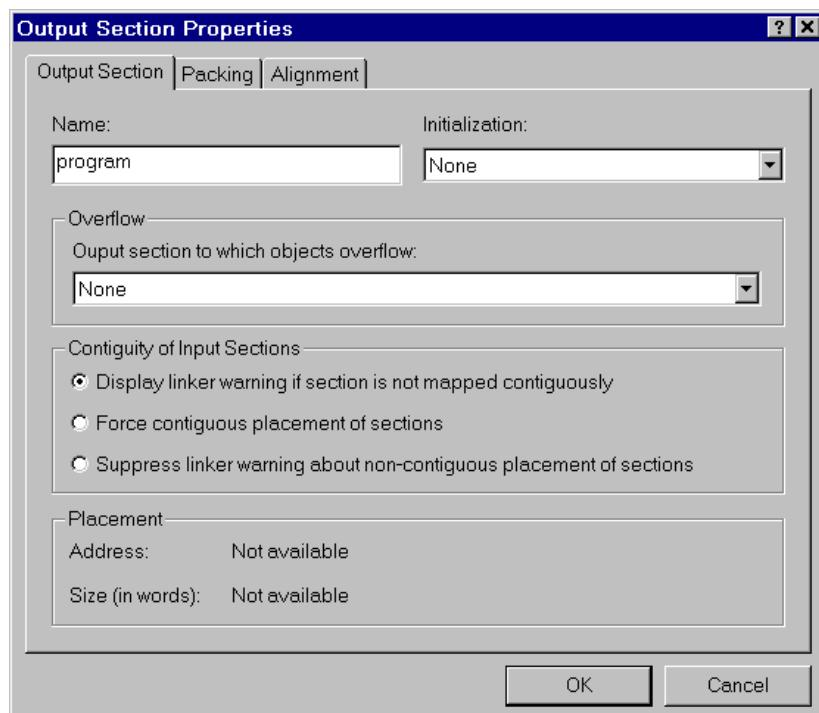

Figure 4-51. Output Section Properties Dialog Box – Output Section Tab
2. Choose **Properties** (Figure 4-51).